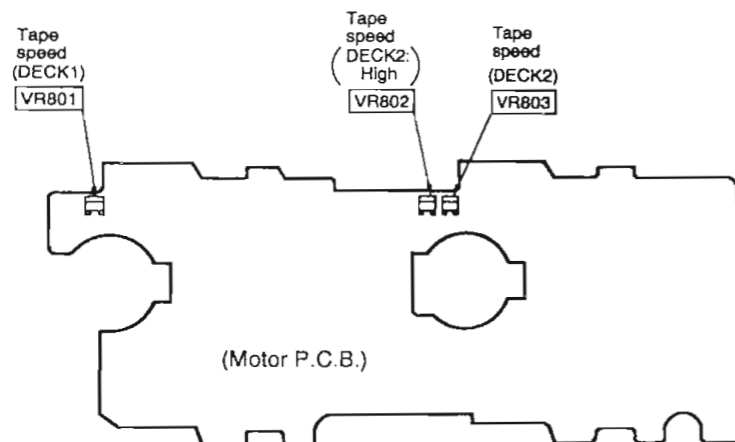

Fig. 2
2. Adjust Deck 1 = **VR801** and Deck 2 = **VR803** for the output value shown below. (Refer to Fig. 2.)
7. Adjust **VR802** so that the output frequency of DECK 2 is within  $\pm 30$  Hz for the value of the output frequency of DECK 1. (Refer to Fig. 2.)